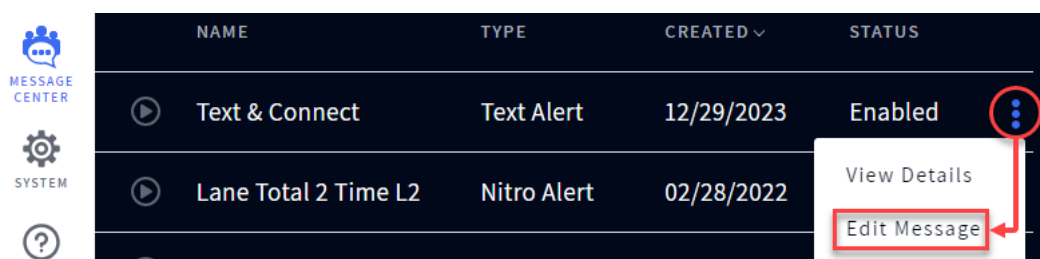

Fig. 8.9
2. Tap the More icon and select Edit Message from the drop-down list (Fig. 8.9).